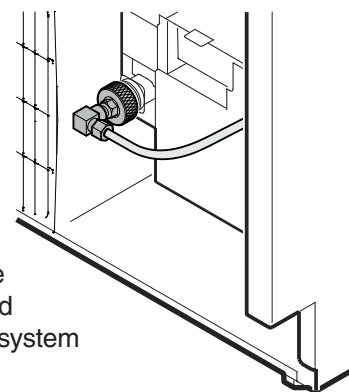

Figure 17
6. Connect the water line to the adapter in the respective configuration, depending on the type of water line used. Figure 17 shows the configuration with a copper line as an example.
8. Screw the adapter onto the solenoid valve (Figure 17).